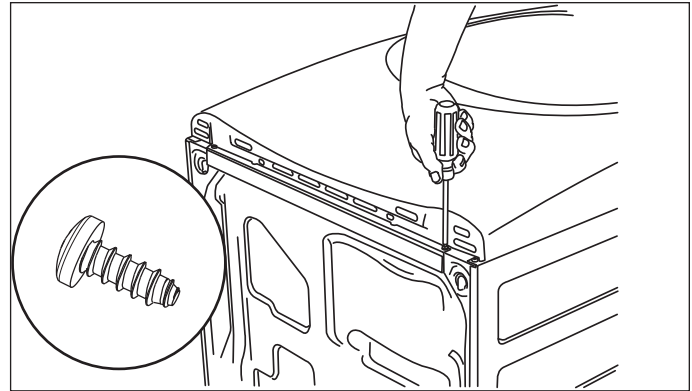

Figure 2-57.
3. With #2 square bit screwdriver, remove two front bracket screws and save for reinstallation. (See Figure 2-57)